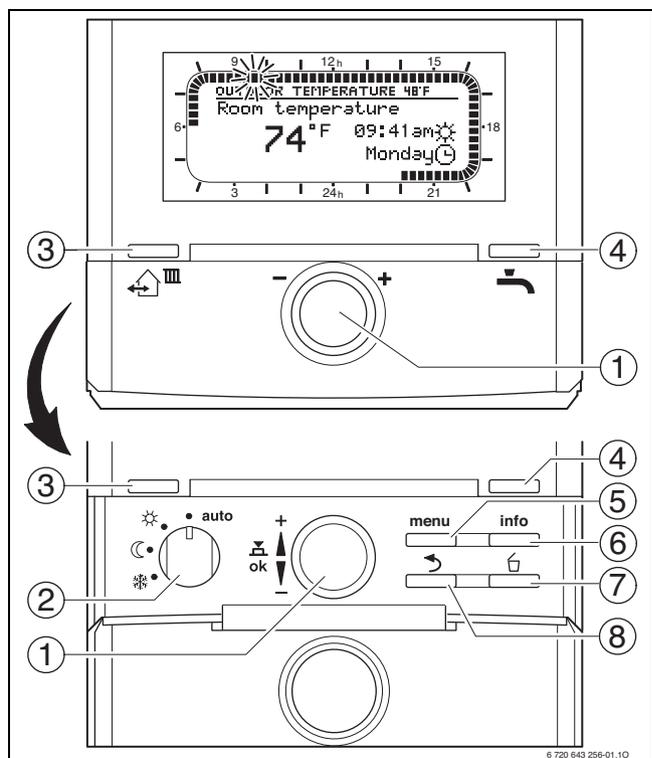

Fig. 57 FW 200 heating control with front flap closed / flap opened
Legend to Fig. 57:
In the following description, at any time, pressing the menu button (→ Fig. 57, [3]) will bring you back to the standard display.
- ▶ Turn the dial (→ Fig. 57, [1]) to adjust time and date.
- ▶ Press and hold the menu button (→ Fig. 57, [5]) until this prompt disappears.
- ▶ Press the menu button (→ Fig. 57, [5]).
- ▶ Turn the dial (→ Fig. 57, [1]) counter-clockwise until **General settings** is highlighted.
- By turning the selector (→ Fig. 57, [2]) to the comfort symbol (☀).
- ▶ Press the menu button (→ Fig. 57, [3]).